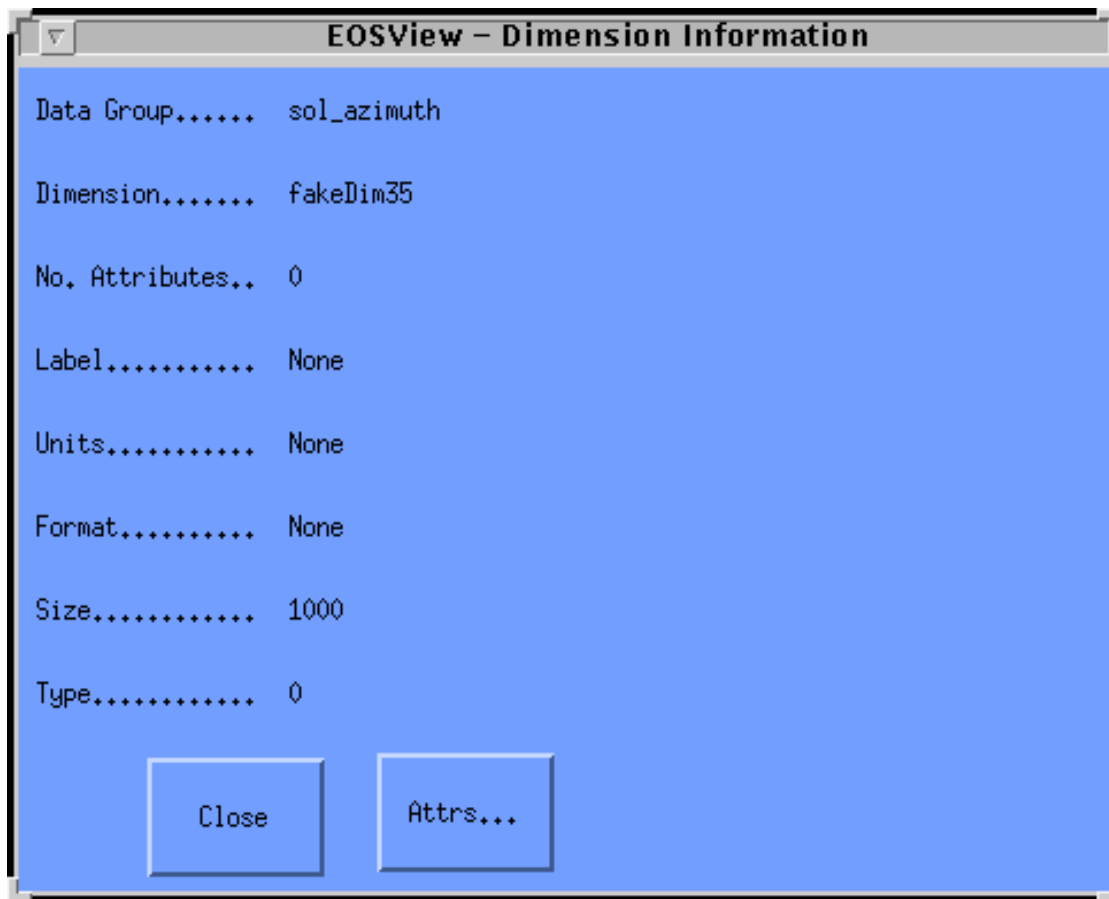

Figure 4.12.5-5. Dimension Information Pop-up
EOSView can only display 2-dimensional (2-D) datasets. If a dataset contains more than 2-D, a 2-D slice of the dataset needs to be selected. This is accomplished by selecting ONLY 2 dimension boxes to the left of the dimension name. The other dimensions can have an index entered in the text box. Additional information for each dimension can be displayed in a separate window by pressing the button next to the dimension the information is desired. Clicking on the **Info** button will bring up a Dimension Information pop-up shown below in Figure 4.12.5-5.
Selecting the **Table** button from the Multi-Dimension SDS window brings up a table window as shown in Figure 4.12.5-6. The table window will display a 1 or 2 dimensional list of the data as either a Scientific Data Group or Vdata. The window is sizable and contains horizontal and vertical scrollbars.
The **File** pulldown menu contains the following items, as shown in Figure 4.12.5-6:
- **Make Image** - This will create a pseudo-color image of the selected table. Selecting this option causes the Min/Max Values Pop-up to appear (Figure 4.12.5-14).